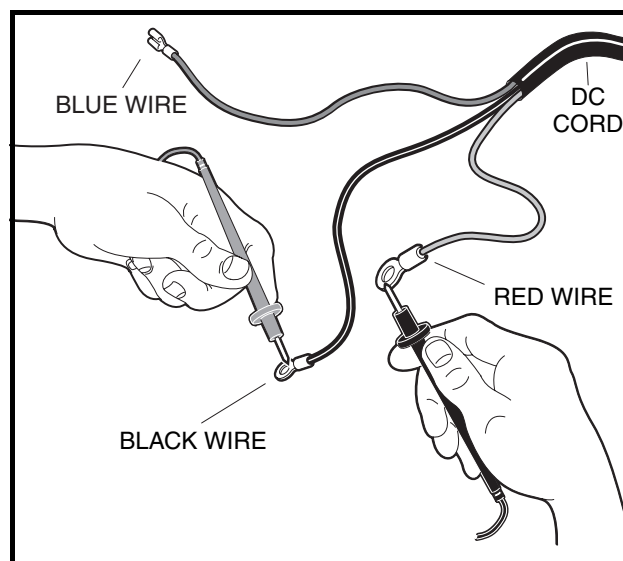

Figure 4-17 DC Cord Test (Probes Reversed) – DS Villager 4
7. Reverse the test probes and check the DC cord again (**Figure 4-17, Page 4-18**). The circuit should show continuity in only one direction.